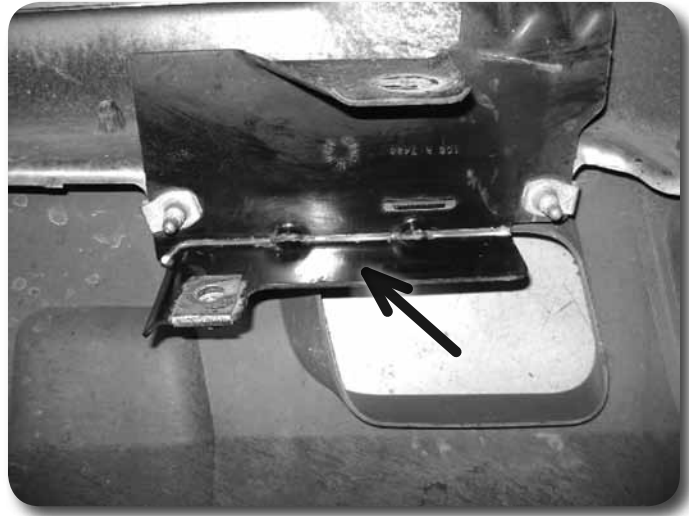

Figure 19
42. For GMC models skip to step 46. For Chevy models the factory front bumper brackets need to be modified. Locate the bottom mounting tab on the bumper bracket (mounted to the inside of the bumper). Remove the lower inside mounting bolt and nut tab. These will not be reused. **Figure 19**